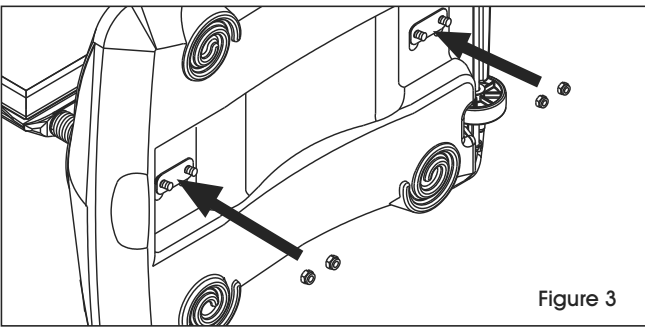

Figure 3
3. Slide nuts onto screws on bottom of base. (See Figure 3)